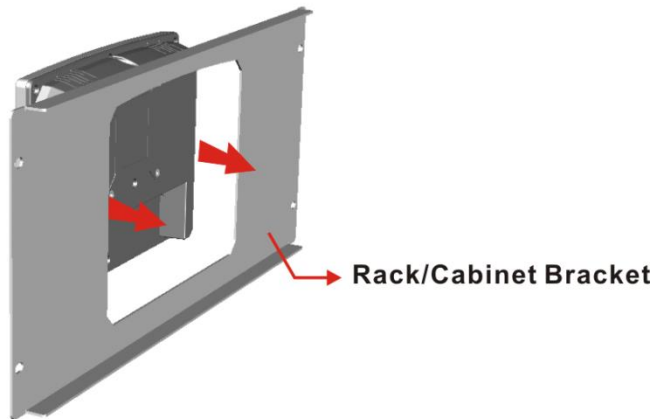

Figure 3-12: Rack/Cabinet Bracket Installation
Step 1: Slide the rear chassis of the AFL3-W07A-AL flat bezel panel PC through the rack/cabinet bracket until the frame is flush against the front of the bracket (Figure 3-12).